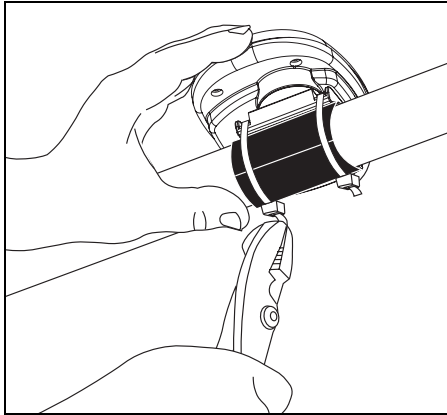

Figure 11: Install the controller on the handlebar with wire ties
6. Place the controller on the neoprene mounting pad, and then attach it to the handlebar using the wire ties. See Figure 11. Use the pliers to tighten the wire ties so the controller cannot move.